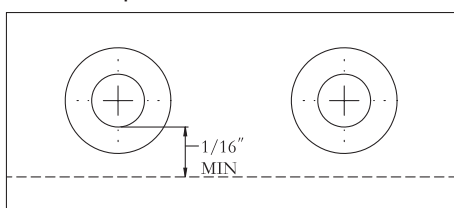

Figure 13- Chipper knife minimum cutting edge
2. The chipping knives may be sharpened at a 39 degree angle until the distance between the edge of the blade bevel and the mounting hole is less than 1/16" (1.6mm). SEE FIGURE 13.
6. Inspect, rotate, sharpen, or replace the chipper knife. SEE FIGURE 13